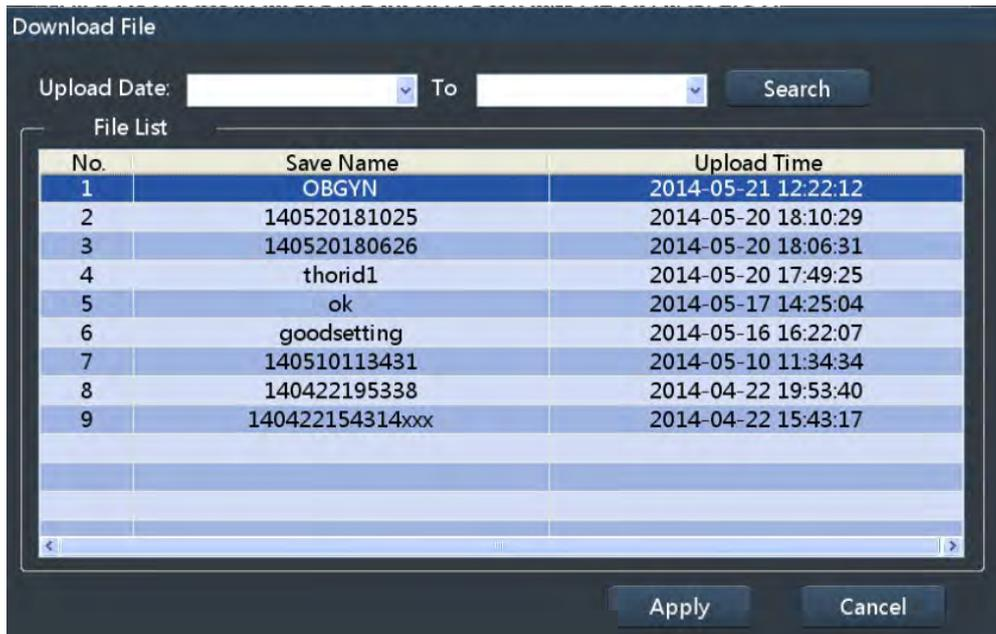

Fig. F-16 Download File screen
**Procedure:** Use the trackball to move the cursor over the **Download Setting** button and press the **Set** key to call up the **Download File** screen, as shown in Fig. F-16. All the personalised parameter settings uploaded to the server will be listed in chronological order in the list. Click on a file, and then click **Apply** in the bottom-right corner to download the personalised parameter settings to the current ultrasound system.